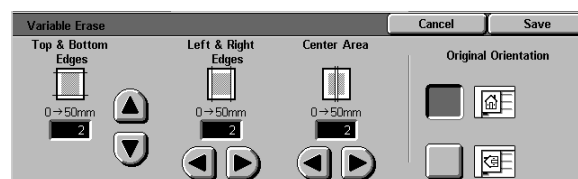

Figure 30: Variable Erase screen
- 2 Touch the **Variable Erase** icon to display the Variable Erase screen, as illustrated in Figure 30.